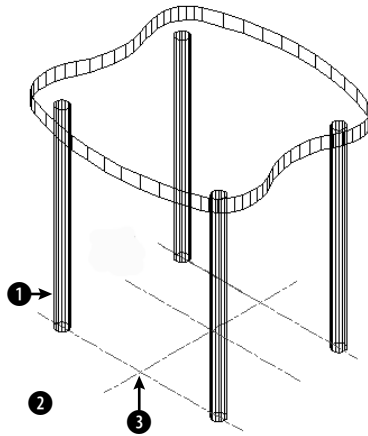

Figure 21-18: Part of a 3D chair.
11. To see the result, type **hide ↵**. Remember that the polyline has no top or bottom surface. Imagine your model as a glass-bottomed chair. It should look like Figure 21-18.
12. Choose Tools ⇨ Inquiry ⇨ List. Select the front-left leg at **1** in Figure 21-18. Press Enter. The center (of the circle at the bottom of the leg) is X = 3.5000; Y = -7.0000; Z = 0.0000.
15. Choose Tools ⇨ New UCS ⇨ View. The UCS is now parallel to your current view. Choose Draw ⇨ Text ⇨ Single-Line Text. Start the text at ② in Figure 21-18. Set the height to 1.0 and the rotation to 0. Type **A glass-bottomed chair**. Press Enter twice to end the command.
16. Choose Tools ⇨ New UCS ⇨ Object. Pick the line at ③. Choose Tools ⇨ New UCS ⇨ Origin. Type **0,0,17** as the origin to place the UCS at the top of the seat.